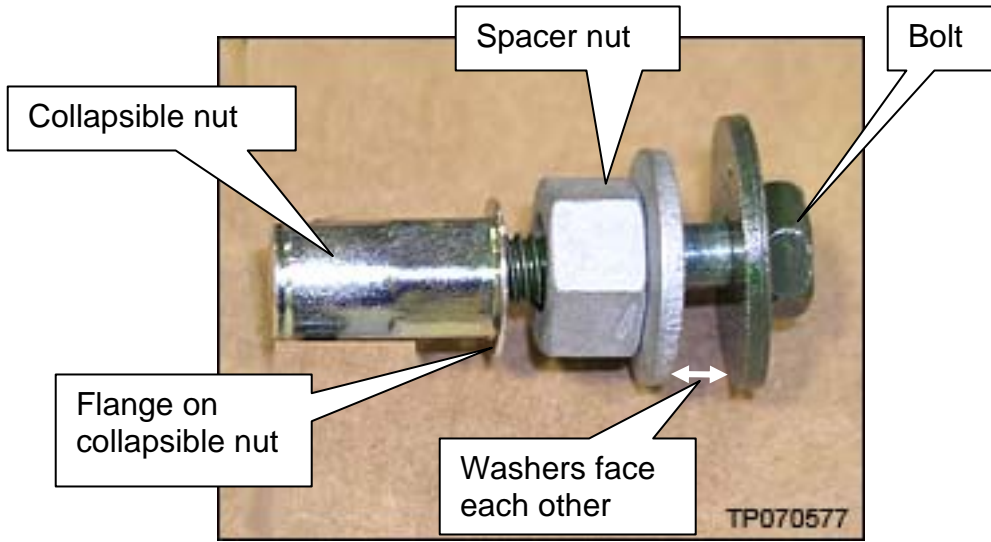

Figure 5
- a. Assemble the collapsible nut, spacer nut, and bolt as shown in Figure 5.
- b. Finger tighten the assembly in Figure 5.